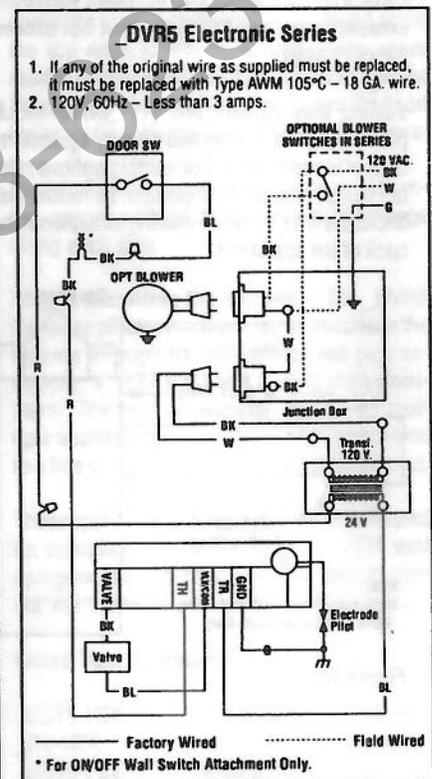

Figure 16
Step 7. Field Wiring Electronic Appliances – Regardless of whether an optional forced air blower kit is to be installed now or sometime in the future, the appliance must be connected to the main power supply. To install, route a 3-wire 120V 60Hz power supply to the appliance junction box (located in the lower left side of the appliance) and ground. Also, locate and install the low voltage (24V) wall switch in the desired location, connect the low voltage wire to this switch and/or install thermal snap switch in series. Refer to the installation instructions provided with the forced air kit. (Figure 16).